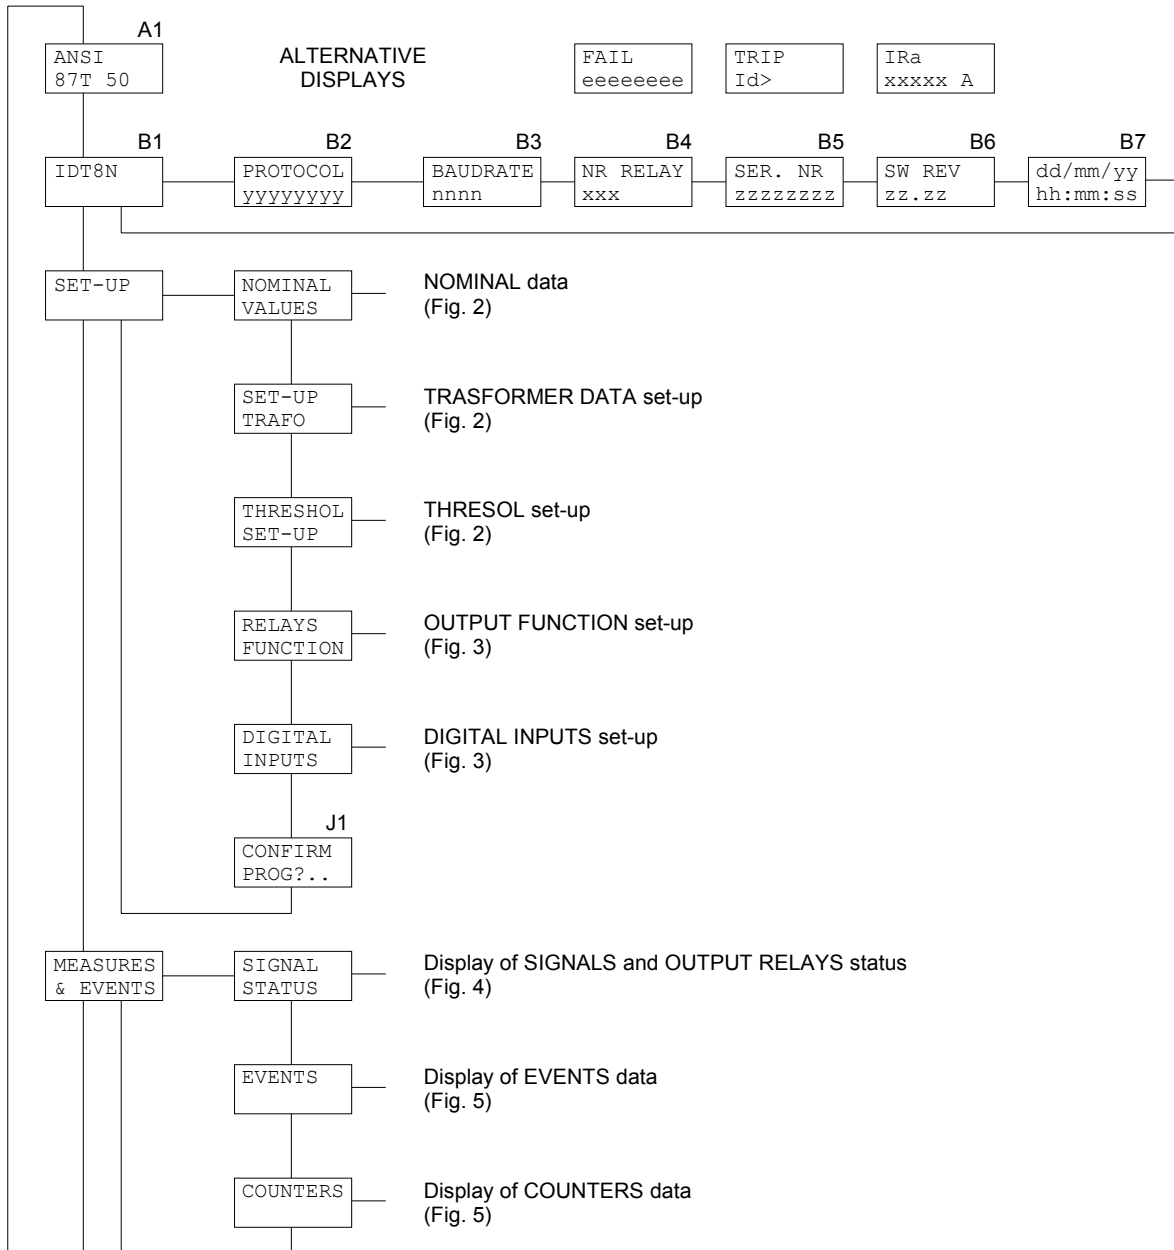

Figure 1
The programmable parameters are showed in Figures 1, 2, 3, 4 and 5 at the following references:
- 5) **CONFIRM** the new protection relay set-up at the visualization CONFIRM PROG? (Fig. 1, ref. J1) within 5 minutes depressing the push-buttons [ENTER],  up to visualize **YES** and [ENTER] again to confirm.
- display on STANDARD MODE (Fig. 1, ref. A1 - par. 5.1)
The contents and the structure of the displayed messages are shown in figures 1, 2, 3, 4 and 5; the references A1, B1, B2 etc. identify specific displayed messages in the figures.
### 5.3 Address and time (fig. 1)
**5.4 Display selection and drop-off delay (fig. 1)****C1 - STANDARD DISPLAY SELECTION (programmable)**